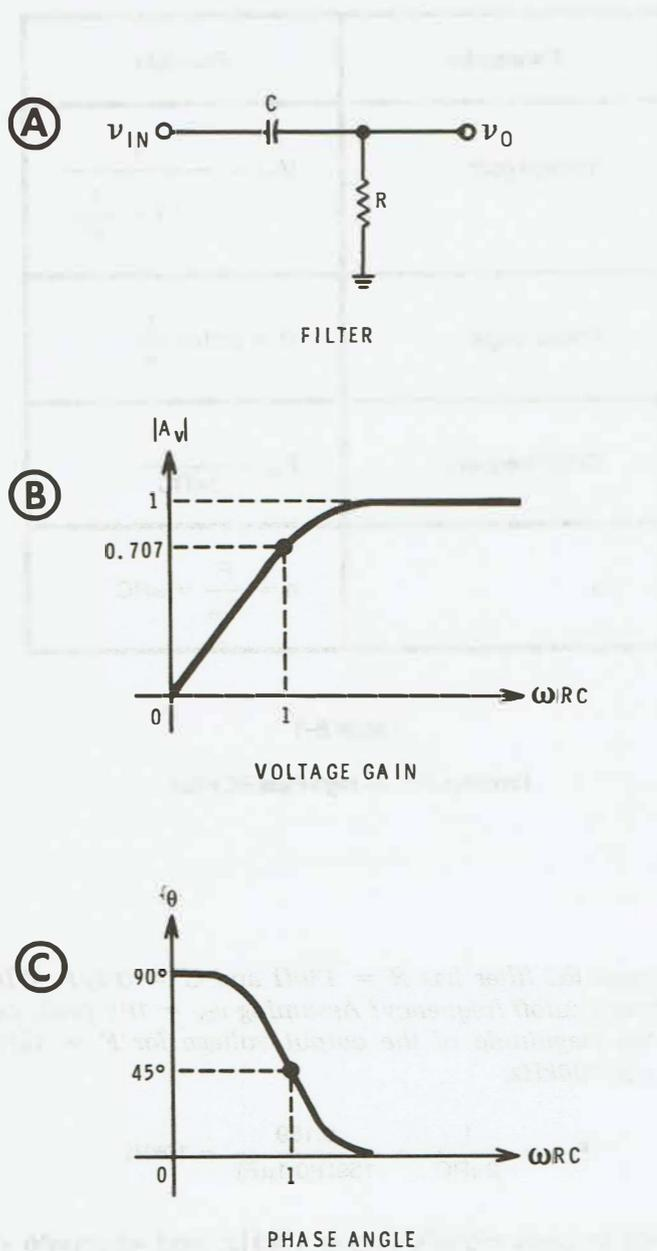
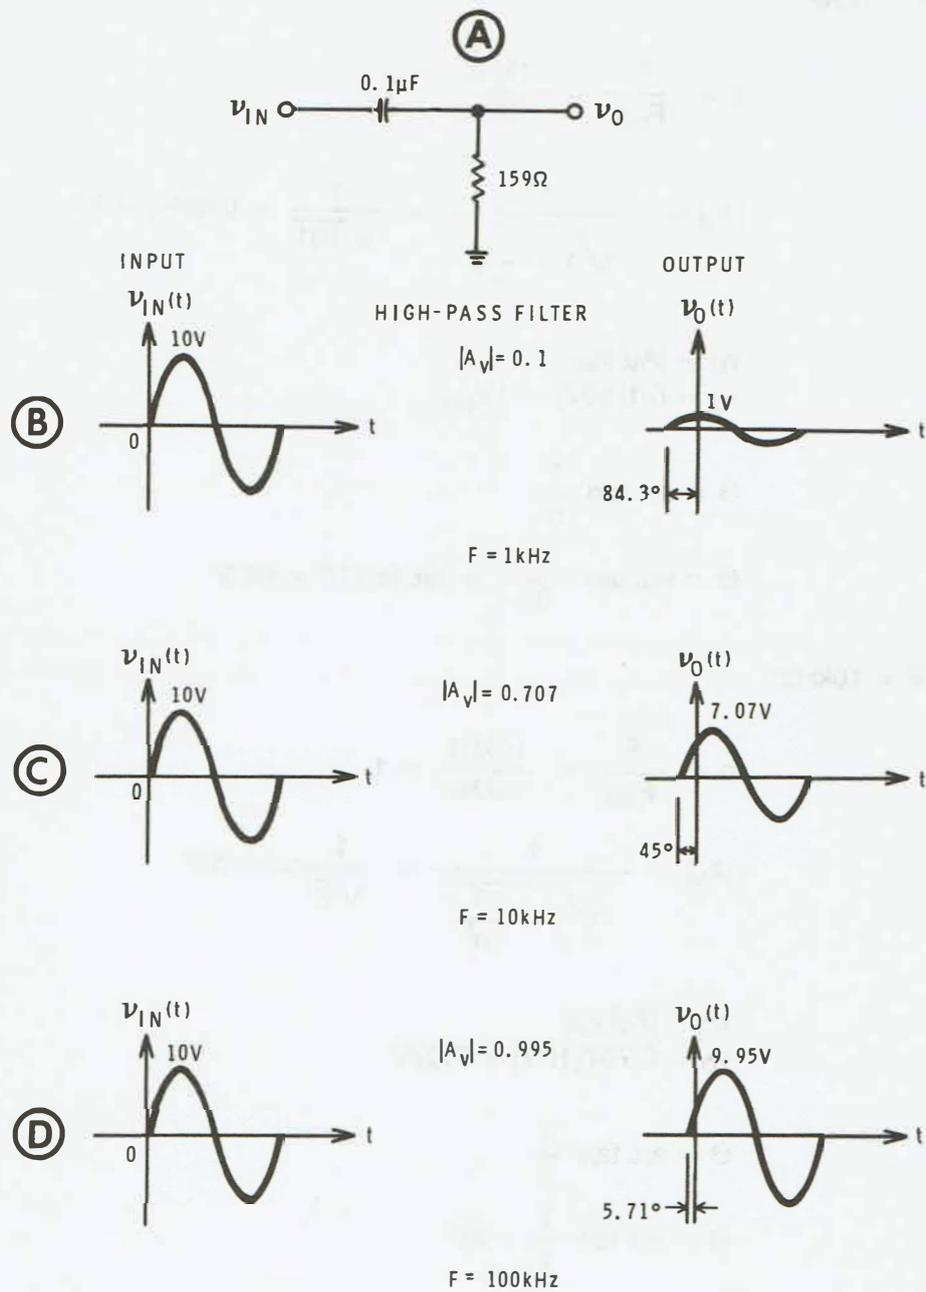
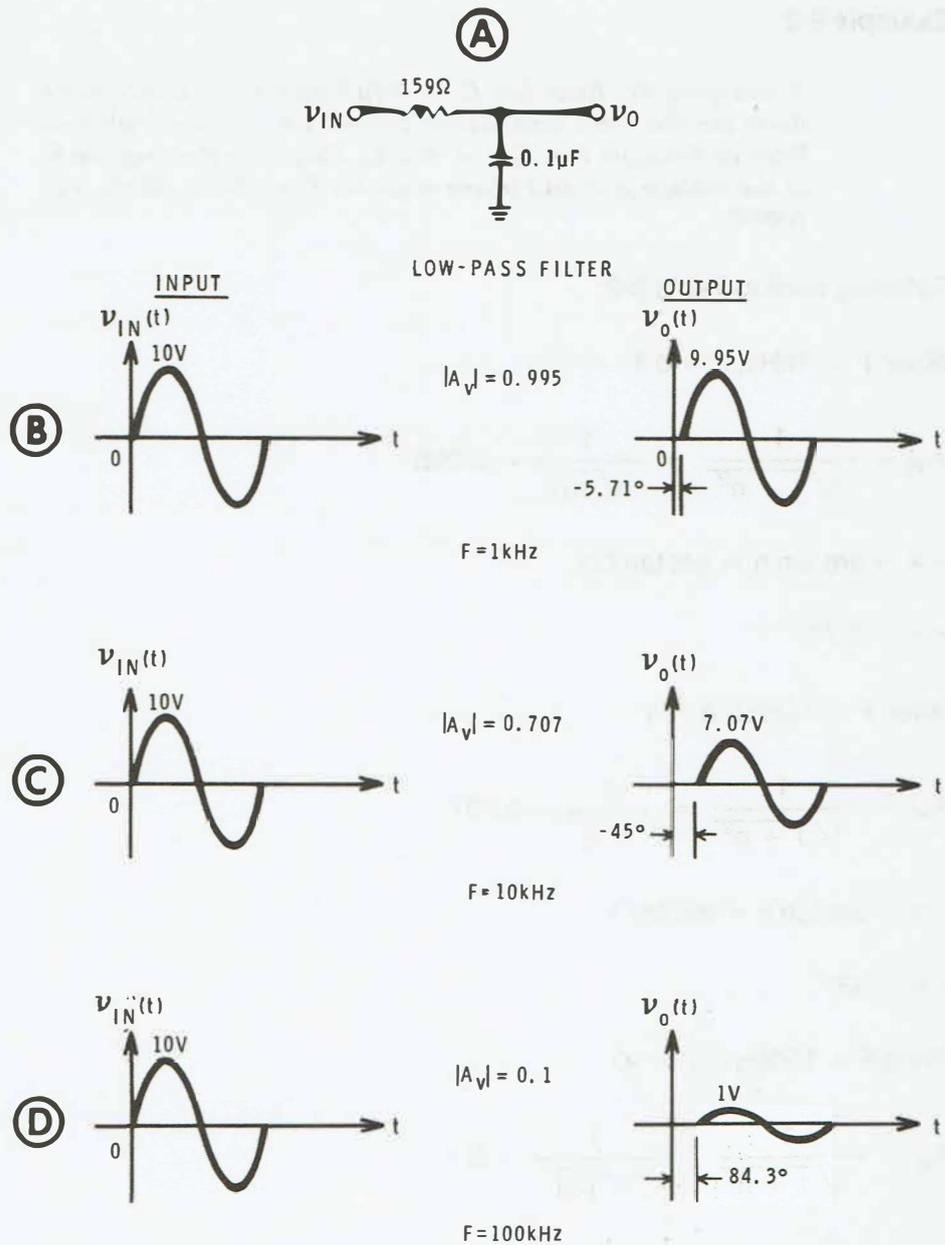

Figure 8-2
Figure 8-3
Figure 8-6
A sketch of the input and output voltages at 1kHz, 10kHz, and 100kHz are provided in Figure 8-3. Here, note that the output voltages agree with the sketches in Figure 8-2. Specifically:
2. In Figure 8-3 note that:
By substituting different values of n into Equation 8-3a and 8-3b, the necessary data is obtained to sketch the frequency response curves shown in Figure 8-5B and Figure 8-5C respectively. Comparing Figure 8-5 with Figure 8-2 illustrates the "opposite nature" of the low-pass and high-pass filters.
Figure 8-6 is a sketch of the input and output voltages at 1kHz, 10kHz, and 100kHz. A comparison of these waveforms with those for the analogous high-pass filter in Figure 8-3, again illustrates the opposite nature of the two types of filters.